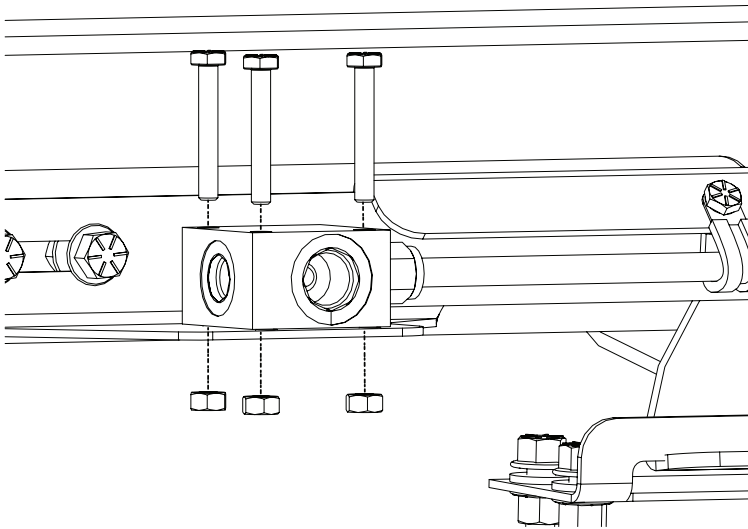

Figure 9: Remove and retain the three bolts and nuts that secure the PRD block to the rail.
5. Remove and retain the (3) bolts and nuts that secure the PRD block to the rail (Figure 9).